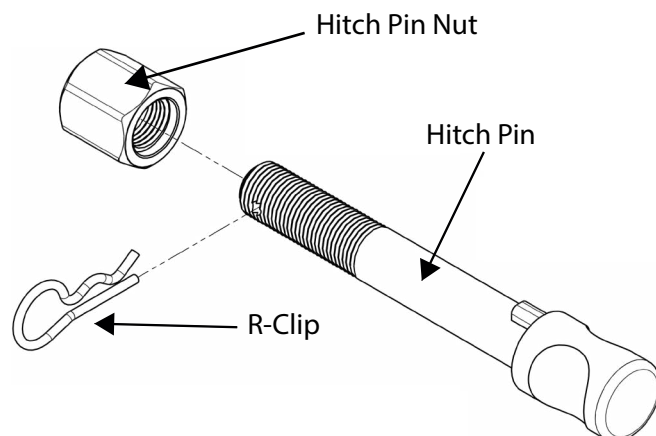

Fig 1. Silent Anti-Rattle Hitch Pin assembly
3. Locate the towbar on the vehicle, using the relevant fasteners, as shown in Figure 1.
Install HITCH PIN R CLIP through the hole on the HITCH PIN (Fig. 1).